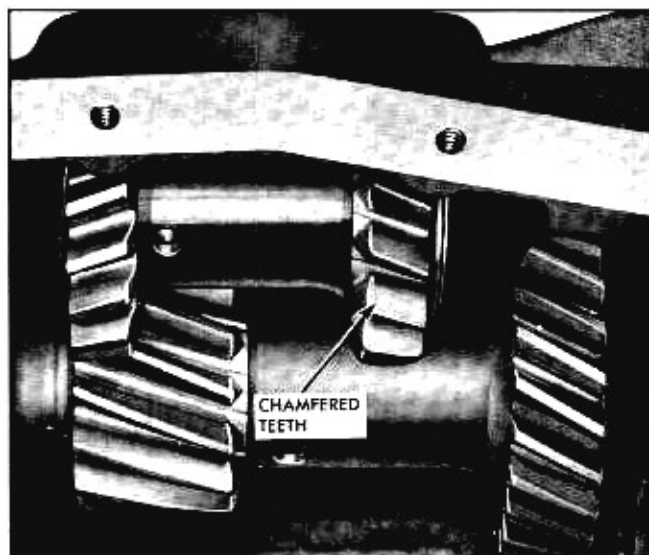

Fig. 7-38 Reverse Idler Gear Installed
5. If reverse idler gear was removed, coat the needle thrust bearing and thrust washer with grease and position them on reverse idler gear in that order. The needle bearing must be against end with chamfered gear teeth (Fig. 7-38). Coat bushings with transmission lubricant.